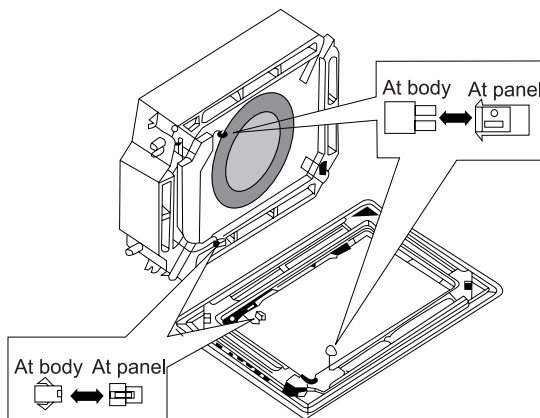

Fig.37
- (4). Wire the swing flap motor as shown in Fig.37.